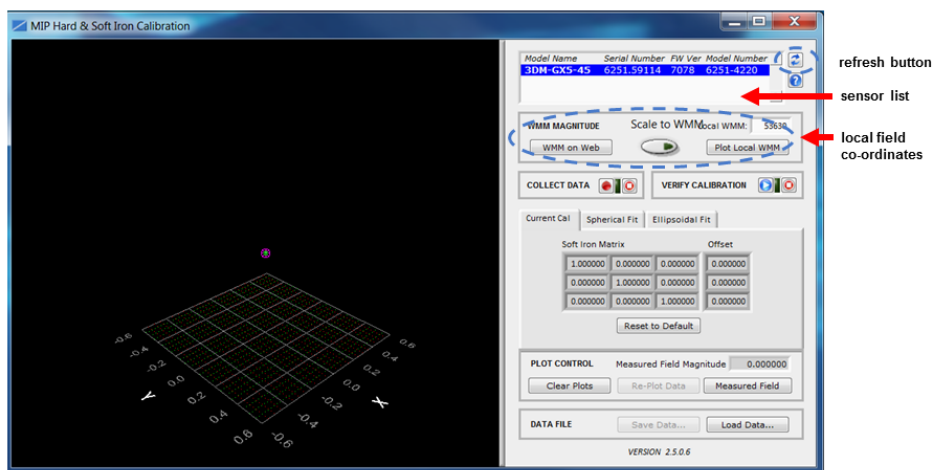

Figure 27 - Sensor Menu
2. Enter the Local Magnetic Field information (Figure 27 - Sensor Menu) for the sensor to account for magnetic influences inherent to the sensor's geographic location on the Earth. As needed, use the WMM on Web button to access a World Magnetic Model calculator on the British Geographic Survey website. This site, and similar sites, generate Local Magnitude F and Local Inclination I values based on latitude and longitude entries. In the calculator solution, these values will be found in row MF, column F and row MF, column I, respectively.
- The sensor should automatically appear in the sensor list (*Figure 27 - Sensor Menu*). If not, use the Refresh button to query it and then select the sensor.